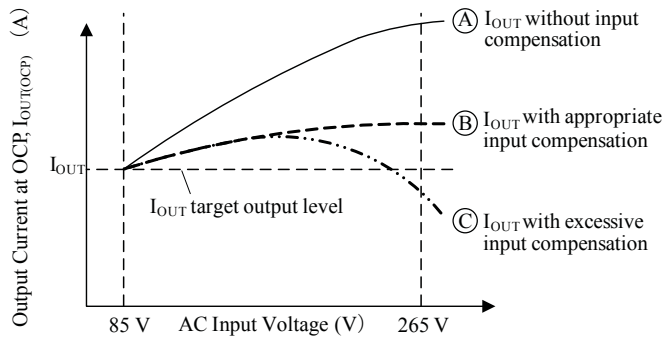

Figure 25. OCP circuit input compensation
Because  $R_{OCP}$  is fixed, the OCP point in the higher input voltage will shift further into the overload area, as shown by curve A in figure 25. In order to suppress this phenomenon, this IC has the Overcurrent Input Compensation function.
As for determining an input compensation value, it is necessary to avoid excessive input compensation for the output current specification,  $I_{OUT}$ , as shown in figure 25. When excessive input compensation is applied,  $I_{OUT(OCP)}$  may be below  $I_{OUT}$  in the situation where the input voltage is high. Therefore, it is necessary to ensure that  $I_{OUT(OCP)}$  remains more than  $I_{OUT}$  across the input voltage range.
Optimize the circuit in a way to minimize the difference between the overcurrent points at low and high AC input voltage. Also ensure that the output current meets its target over the entire AC input voltage range, as the curve B in figure 25 (appropriate input compensation). The OCP pin voltage, including surge voltage, must not exceed its absolute maximum rating of  $-2.0$  to  $5.0$  V at the highest AC input voltage.
- The overcurrent detecting peak drain current with the input compensation circuit,  $I'_{DP(OCP)}$ , is expressed by the following equation, derived from equation 9.  $I'_{DP(OCP)}$  is set to the peak drain current where the output current is equal to that at the maximum AC input voltage of the curve B in figure 25 (appropriate input compensation):
- $I'_{DP(OCP)}$ , Drain current when the output current is equal to that at the maximum AC input voltage of the curve B in figure 25 (appropriate input compensation): 1.9 A
Finally, ensure that the output current limited by OCP operation is similar to that of the curve B in figure 25 (appropriate input compensation), in actual operation throughout AC input voltage ranges. If necessary, re-adjust the rating of  $DZ_{X1}$  and  $R_{X1}$  by changing the compensation startup voltage  $V_{IN(OCP\_ST)}$  for OCP pin input voltage.